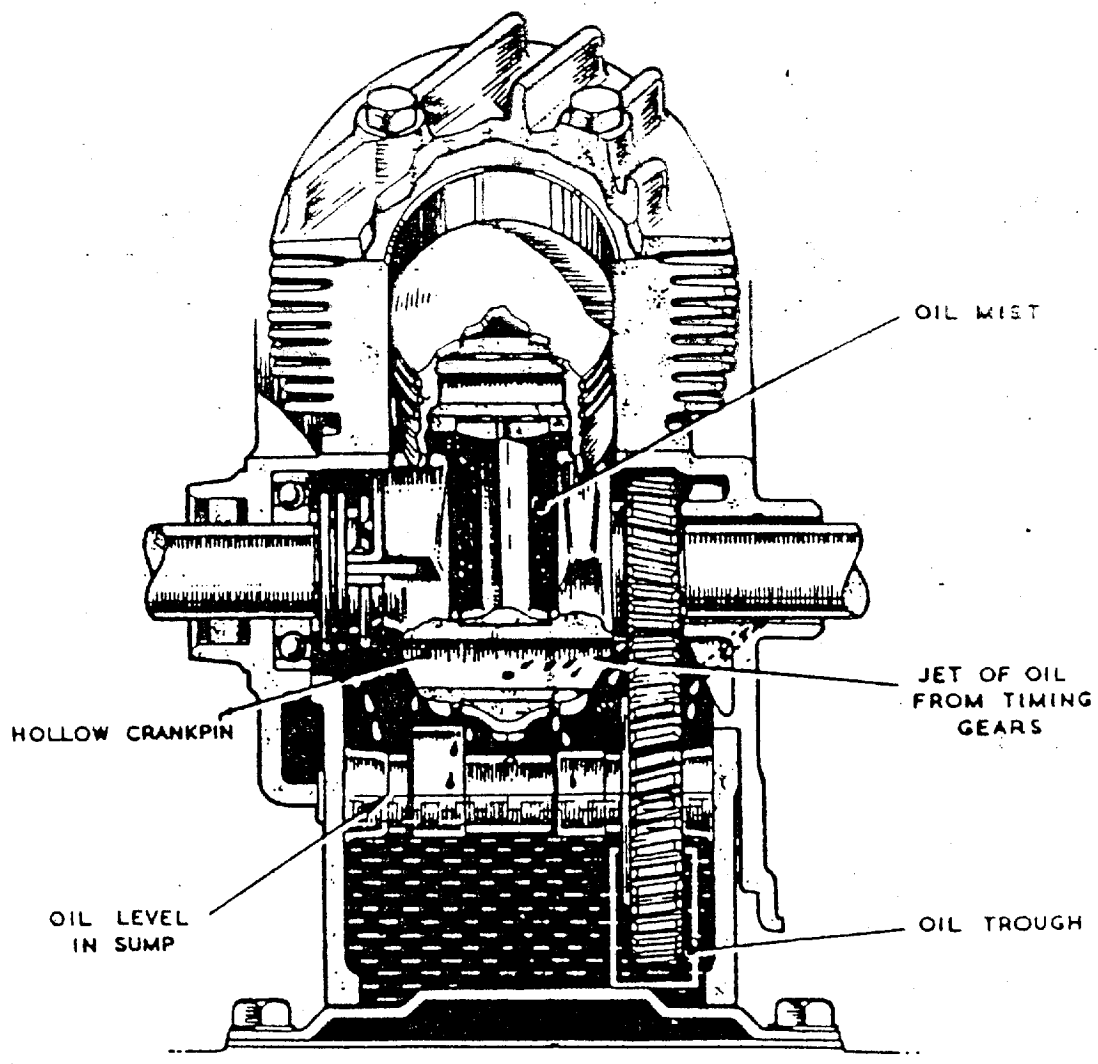

Fig. 9. The Lubrication System.
1.4.4. The sump and lubrication System. Fig.9. The lubricating oil for the engine is stored in the sump at the bottom of the crankcase. A sump filler plug is fitted to the end of an extension pipe on the side of the engine, a drain plug